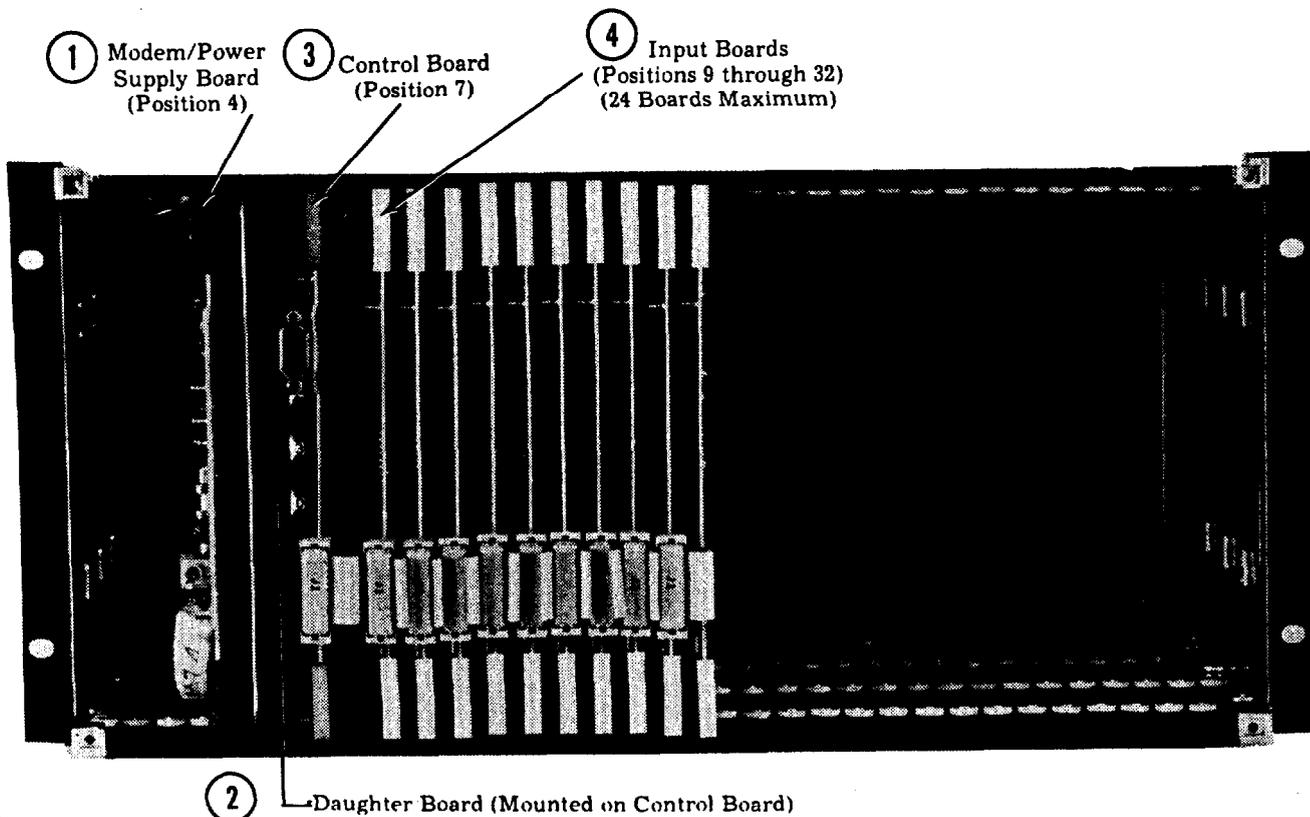

Figure VI-1—Traffic Recorder Parts Location
2.01 Field replaceable parts list is provided in Table K. Figure VI-1 illustrates the location of the parts listed in the table.